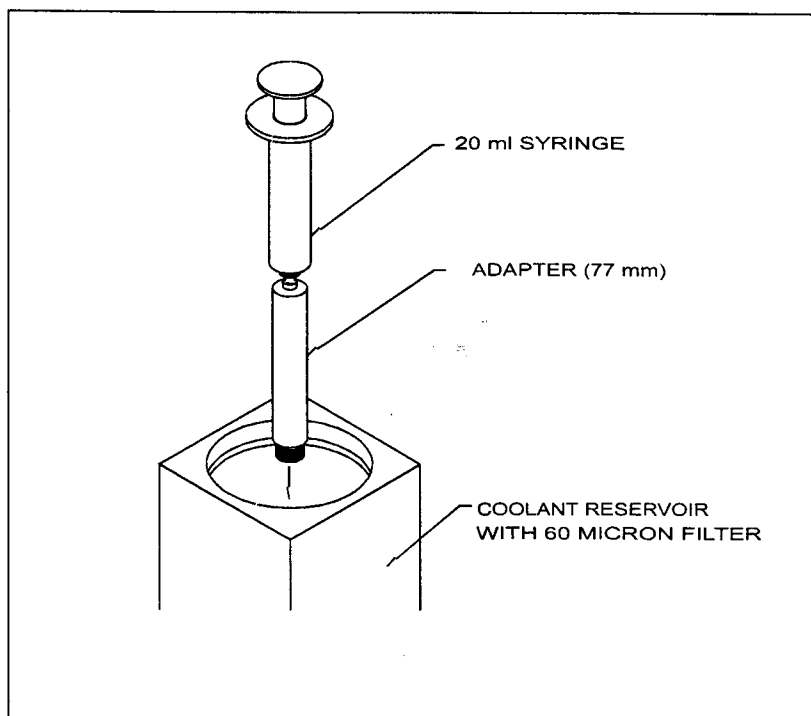

Figure 6-2 Syringe and Reservoir
3. Make sure that a capillary cartridge is in the cartridge holder and the door is closed. Insert the syringe adapter into the reservoir and screw it into place. Withdraw the remaining coolant in the lines by suction (pulling back the syringe plunger. See Figure 6-2.